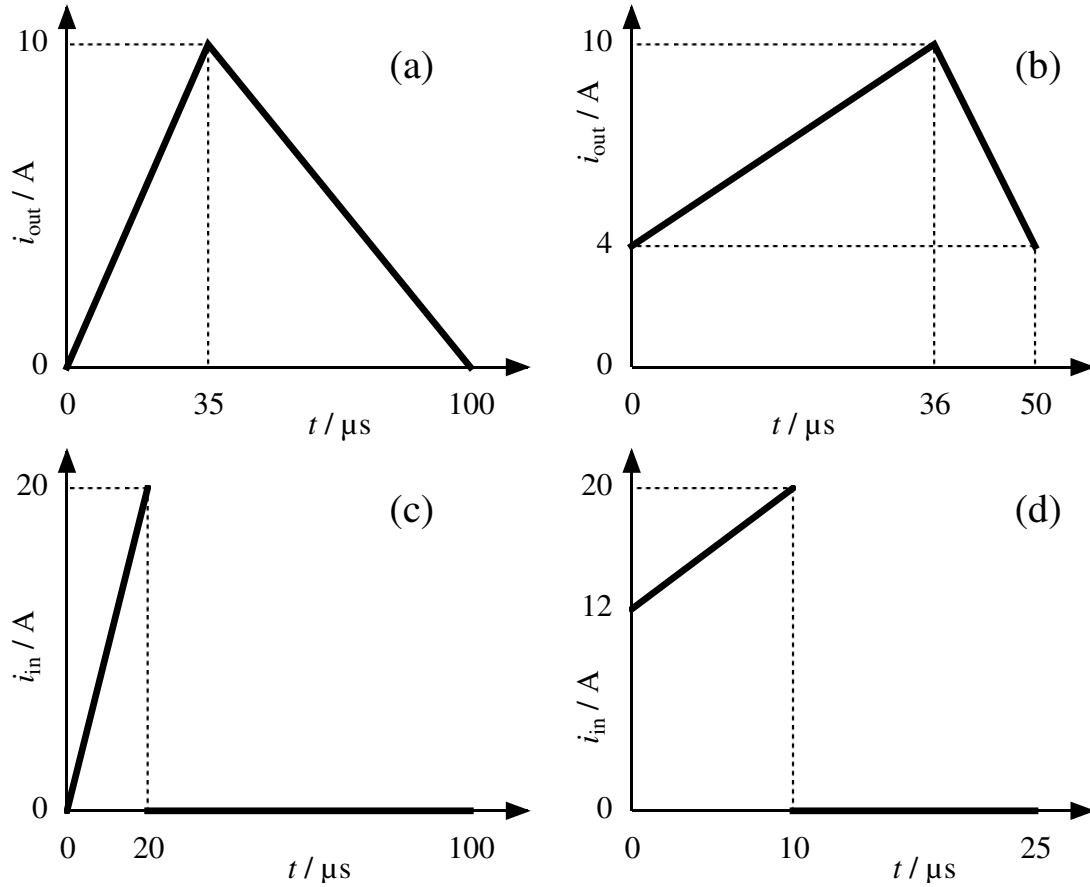

Figure 14. Input or output currents measured in four buck DC–DC converters.
6.1 *Buck regulators.* Figure 14 shows a single cycle of either the input current $i_{in}(t)$ or the output current $i_{out}(t)$ measured for four buck regulators, each of which has an input at $V_{in} = 100$ V. For each of these calculate the duty factor D , output voltage V_{out} , average output current I_{out} , average input current I_{in} , average power P supplied and the value of the inductance L in the converter. Assume ideal components and operation. To help you get started, here is a walk through the first example.